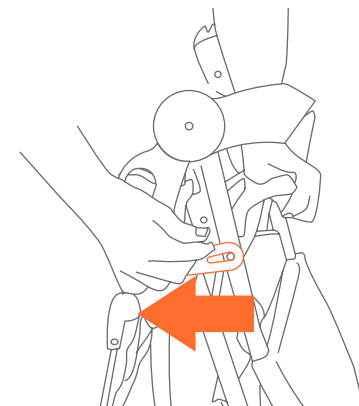

Fig. 21a
- 21)** • Release the folding latch, which is located on the right side (Fig. 21a).